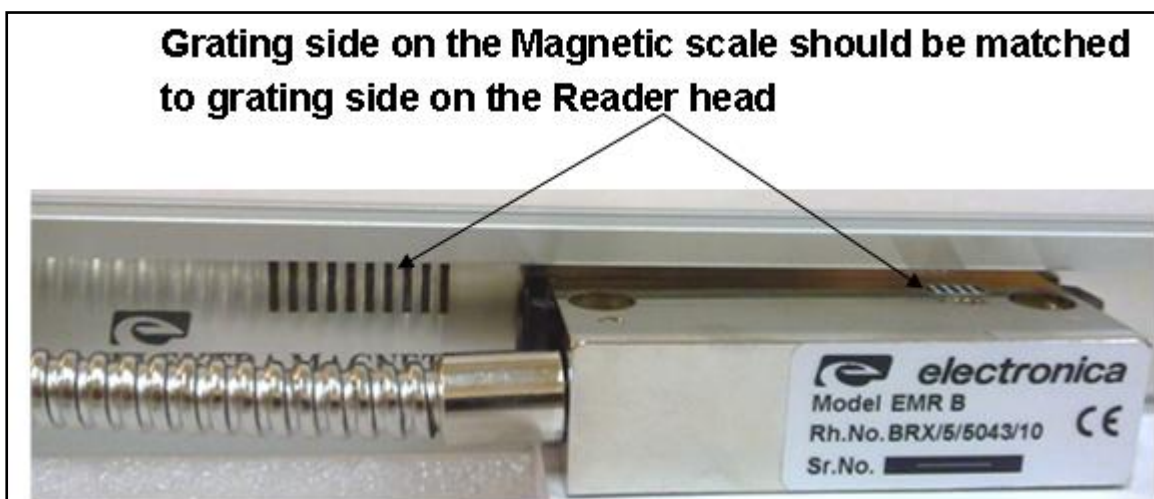
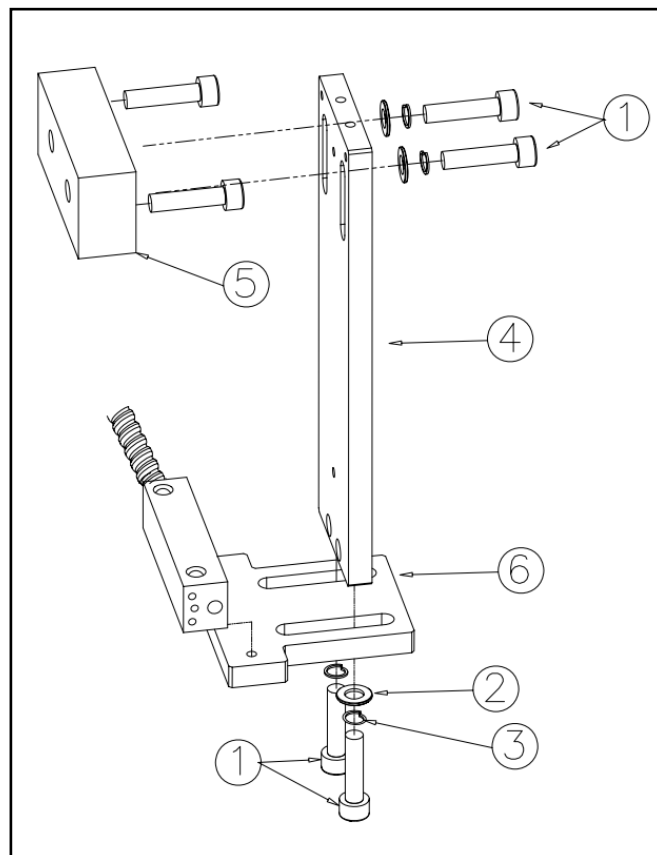

Figure 8
Figure 13
3. Mount the scale and the reader head as per the tolerances given above. The mounting should be as shown in the figure below. The grating symbol on the scale should be matched to the grating symbol on the reader head. Refer Figure 8.
3. Mount the reader head using the brackets as shown in Figure 13. Ensure mounting tolerances as mentioned above. The grating symbol on the scale should be matched to the grating symbol on the reader head. Refer Figure 8.